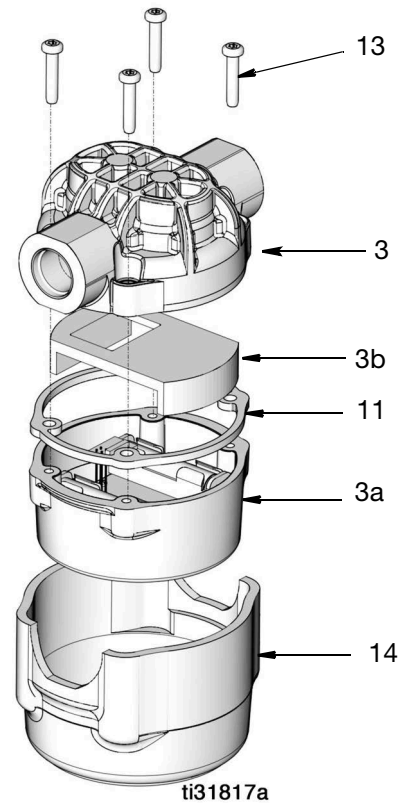

FIG. 14
- Remove impact guard (14) (FIG. 14).
- Remove the 4 screws (13) from the meter (3) housing, and remove the electronics bezel (3a) (FIG. 14).
- Remove battery retainer (3b) (FIG. 14).
7. Reinstall battery retainer (3b) (FIG. 14).
8. (Reinstall the bezel seal (11) over the lip on the top of the metering unit (3). Place electronics bezel (3a) onto bezel seal (11) (FIG. 14).
9. Reinstall screws (13) (FIG. 14). Tighten the screws in a diagonal pattern to 15-25 in-lbs (1.7-2.8 N-m).
10. Reinstall the impact guard (14) (FIG. 14).